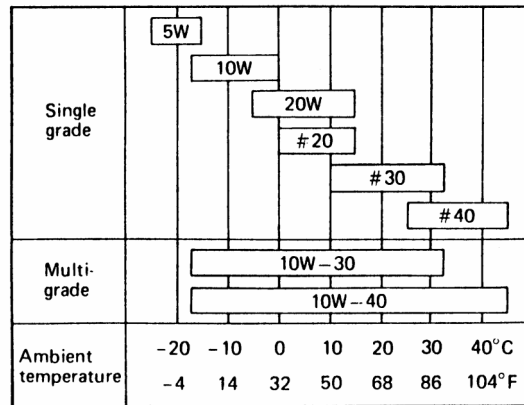

Figure 2-2: Oil Viscosity Grade-to-Temperature Recommendations
- B. Other viscosity grades (see Figure 2-2) may be used when the average temperature in your area is within the indicated range.
- F. Refill with the recommended oil (refer to Figure 2-2).